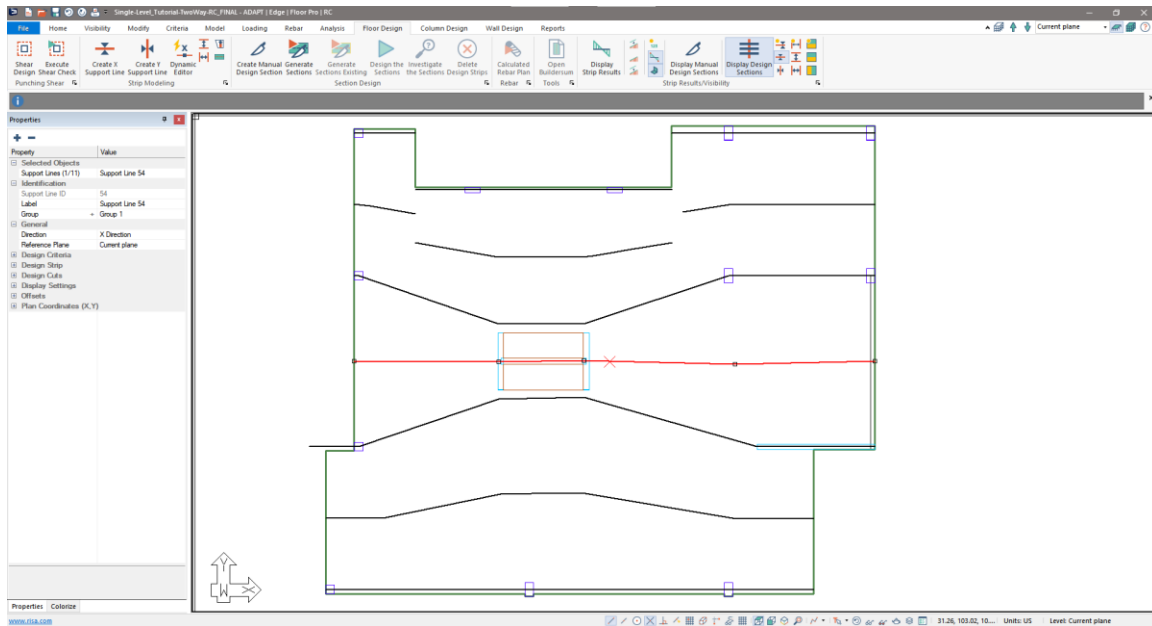

Figure 6-23
- When finished the support lines should look similar to **FIGURE 6-23**.